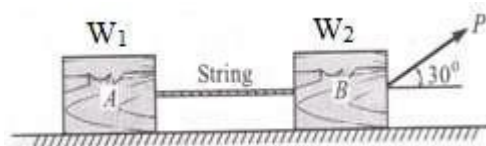

Figure 1
- c. In the Figure 1, the two blocks (A=30 N and B=50 N) are placed on rough horizontal plane. Coefficient of friction between the block A and the plane is 0.3 and that between B and plane is 0.2. Find the minimum value of the force P to just move the system. Also find the tension in the string. [10M]